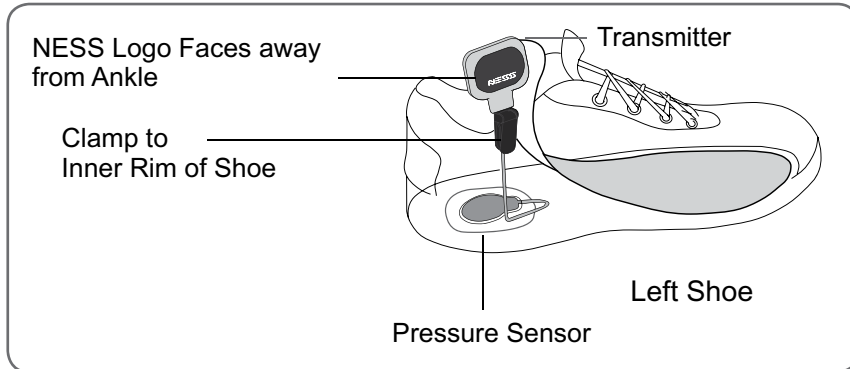

Figure 6-8: Clamping the transmitter to the inner rim of the shoe. (Gait sensor in the heel position in a left shoe shown.)
5. Clamp the Gait Sensor transmitter on to the inner rim of the shoe. Face the NESS logo on the transmitter away from the ankle. See Figure 6-8.